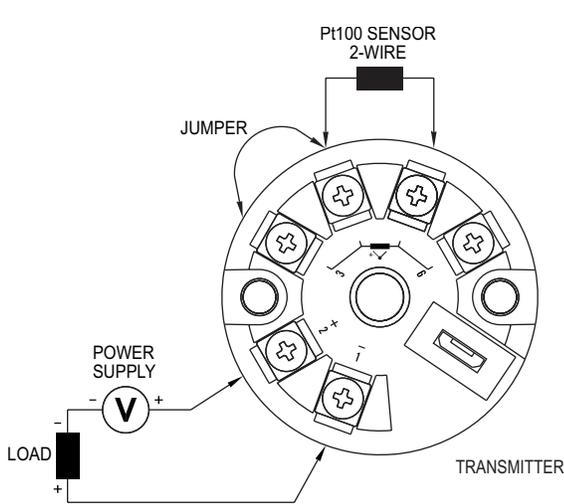

Figure 3: Pt100 2-wire
**Note:** When using a Pt100Ω 2-wire RTD, terminals 3 and 4 must be interconnected, according to Figure 3 below. The Pt100 wire length should be less than 12 in (30 cm) to maintain the measurement error within specifications (electrical resistance).